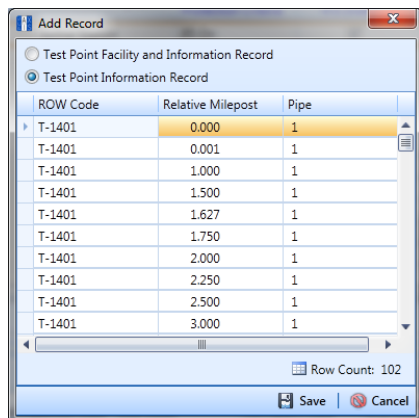

Figure 6-6. Add Record
- 6 Click **Add** to open the *Add Record* dialog box (Figure 6-6, page 170).
- b Select a pipeline with the facility you want to add an information record. For example, pipeline *T-1401* and the facility at *Relative Milepost 0.000* are selected in the next figure (Figure 6-6, page 170).